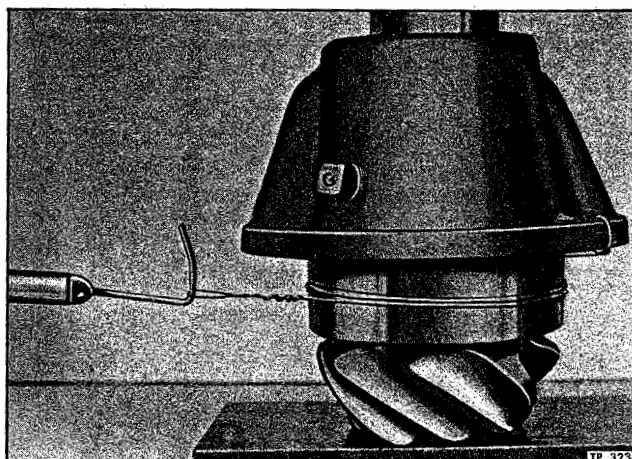

Figure 6—Checking Pinion Bearing Pre-Load
4. Install pinion bearing spacer (30) on drive pinion, then lubricate pinion bearing cones and cups with light engine oil.
5. Insert drive pinion (33) and bearing assembly into pinion cage (27); then, using an arbor press, press outer pinion bearing (28) firmly against bearing spacer (30). Rotate bearing cage through several complete revolutions to assure normal bearing contact.
6. While assembly is still in press under pressure (14 ton), check drive pinion bearing pre-load. Wrap soft wire around pinion bearing cage (27) as shown in figure 6. Attach pound scale to wire, then pull on scale, keeping scale in a horizontal plane. Note scale reading when assembly is rotating freely. To compute inch-pound value of scale reading, multiply scale reading (pounds) by one-half pinion cage diameter (inches). If reading does not fall between limits given in "Specifications" at end of this section, use thinner spacer (30) to increase or thicker spacer to decrease pinion bearing pre-load. Spacer thicknesses available are given in "Specifications" at end of this section.